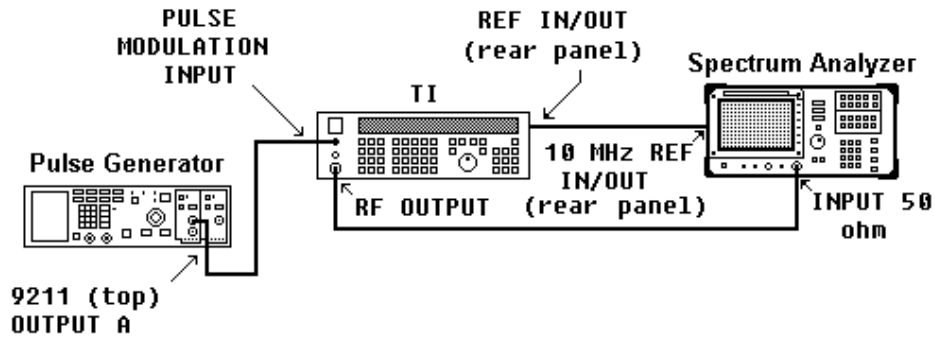

Figure 1. Pulse modulation on/off ratio hookup.
(1) Connect equipment as shown in figure 1.